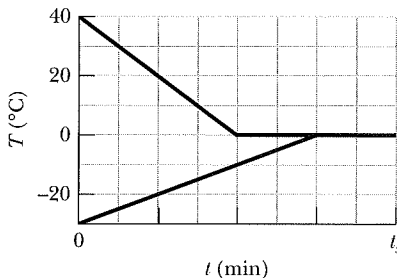

Fig. 18-34 Problem 38.
****38** A 0.530 kg sample of liquid water and a sample of ice are placed in a thermally insulated container. The container also contains a device that transfers energy as heat from the liquid water to the ice at a constant rate P , until thermal equilibrium is reached. The temperatures T of the liquid water and the ice are given in Fig. 18-34 as functions of time t ; the horizontal scale is set by $t_s = 80.0$ min. (a) What is rate P ? (b) What is the initial mass of the ice in the container? (c) When thermal equilibrium is reached, what is the mass of the ice produced in this process?